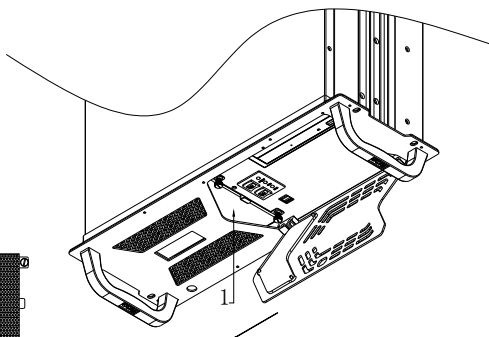

Figure 3
2. Fasten the two screws fixing the dust filter bracket. Hold the dust filter bracket by the handle and insert the bracket with dust filter from right to left by the direction of arrow, then tighten the manual screws (Figure 3).